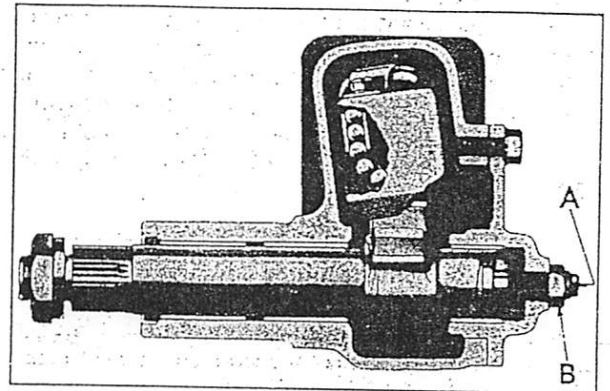

Fig. 18—Sector Adjustment Points
3. Loosen the lock nut "B," Fig. 18, and turn the lash adjuster "A" a few turns in a counter-
7. After proper adjustment of the wormshaft end-play is obtained, and all mounting bolts securely tightened, adjust lash adjuster "A," Fig. 18. First turn the steering wheel gently from one stop all the way to the other, carefully counting the total number of turns. Then turn wheel back exactly half way to center position. Mark wheel at top or bottom center with a piece of tape. Turn lash adjuster "A" clockwise to take out all lash in gear teeth, and tighten lock nut "B." Check pull at wheel rim with checking scale as before, taking the highest reading of the checking scale as the wheel is pulled through center or straight ahead position. This should be between 2 and 2½ pounds. Readjust, if necessary, to obtain proper pull. Tighten lock nut "B" and recheck pull as it must lie between the specified limits after the lock nut is tightened.
1. Loosen the lock nut on the end of the sector shaft, "B" Fig. 18. Then turn the lash adjuster "A" a few turns counterclockwise. This will remove the load from the bearings caused by the close meshing of the rack and sector teeth.